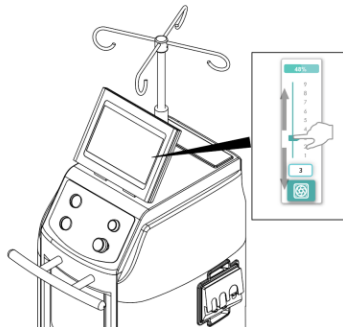

Figure 10 To Adjust Smoke Evacuation
- c. Adjust the evacuation level to the desired setting by sliding the "Smoke Evacuator Power Setting" bar or tapping the "Smoke Evacuator Power Setting" BUTTON to input (Figure10). Make sure the smoke evacuation functions correctly. If not, see the Troubleshooting section.